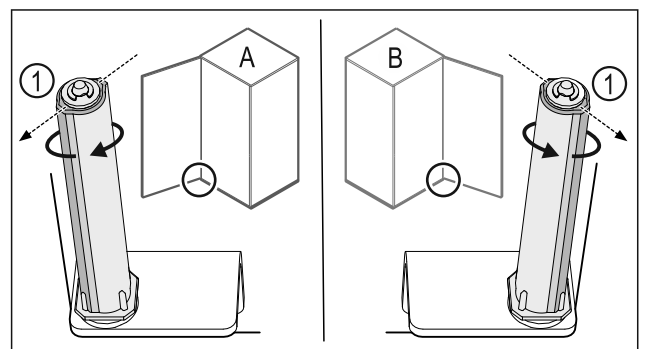

Fig. 30 Left-hinged (A) / Right-hinged (B)
- ▶ Turn the closing system against the resistance until the bar of the closing system Fig. 30 (1) points outwards.